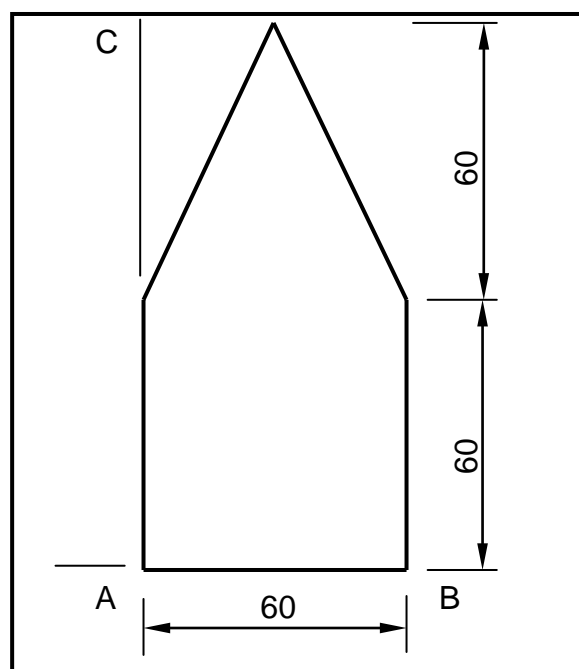

FIGURE 5.2
5.2 FIGURE 5.2 below shows a lamina.
- 5.2.2 Deduce from FIGURE 5.2 the position of the centroid from **A–C**.